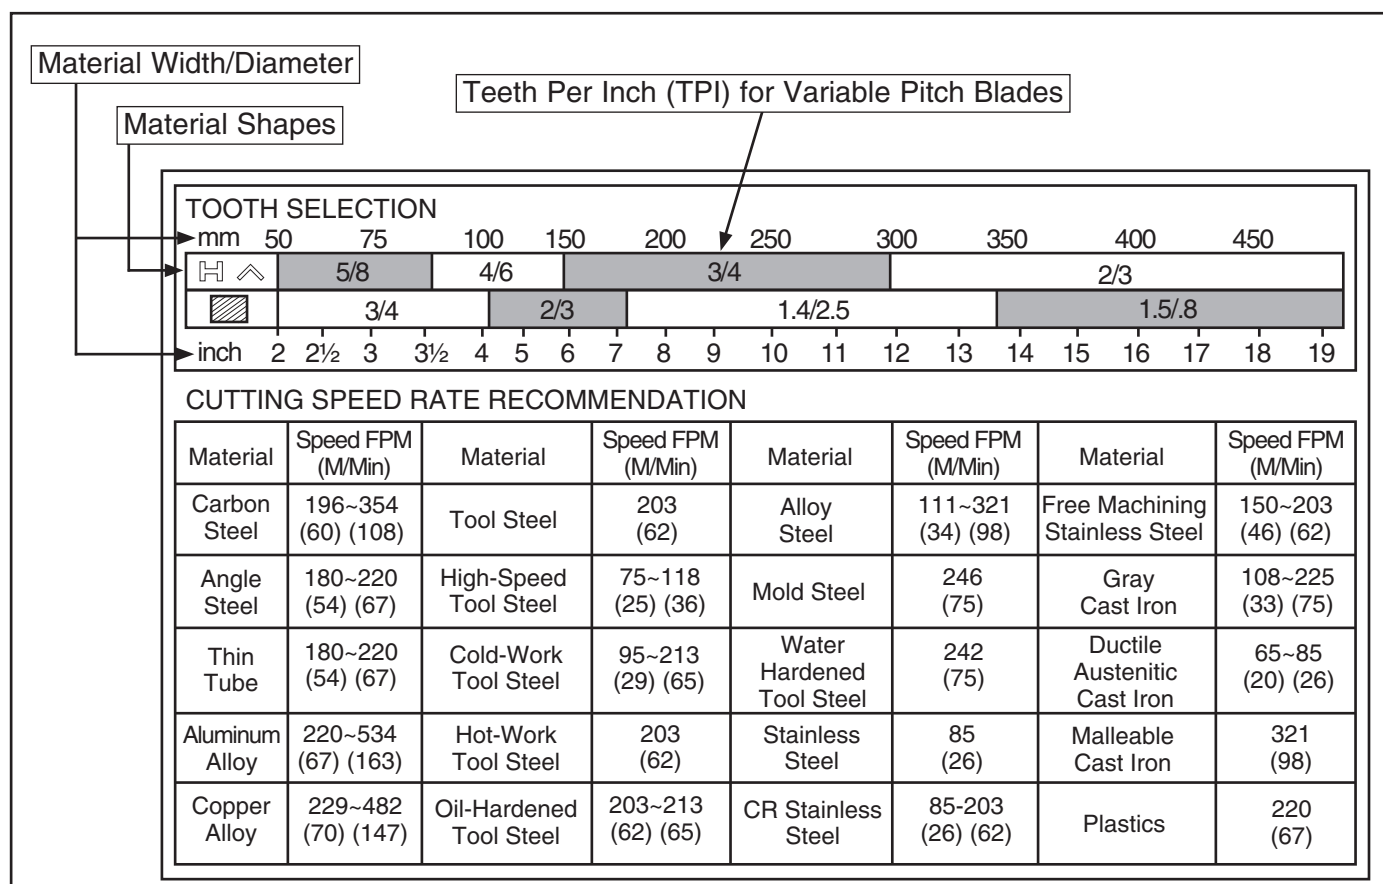

Figure 20. General guidelines for blade selection and speed chart.
2. Refer to the "Material Width/Diameter" row of the blade selection chart in **Figure 20**, and read across to find the workpiece thickness you need to cut.